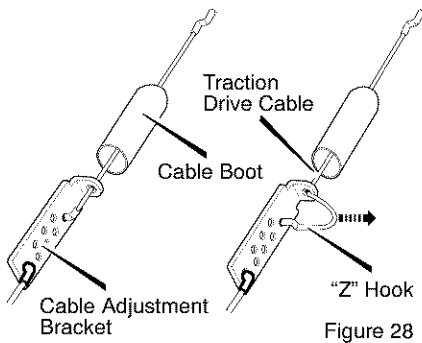

Figure 28
5. Slide the **cable boot** off the **cable adjustment bracket** (see Figure 28).